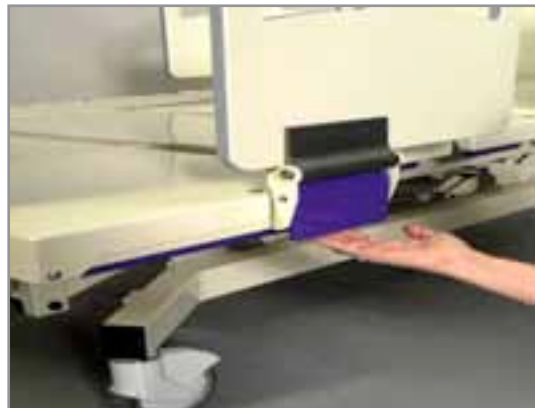

Figure 8
3. Pull bottom of Latch Hinge outwards to lower Side Rails (Figure 8). **Note:** Latch Hinge locks Side Rail only in **up** position.